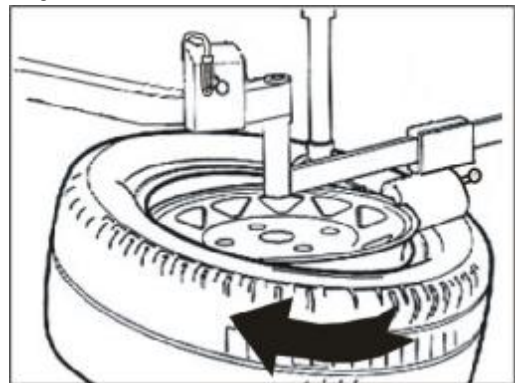

Fig.35
- I To seat the upper tyre bead, place the tyre well and readjust position of the tyre bead (same as mount of the lower tyre bead). Draw out the roller and make its side surface 1—2cm away from margin of the rim. Place the press block on the upper bead 20cm clockwise away from the mount/demount head. Press the control lever to make the press block go down 5—7cm to seat tyre bead into the rim groove (Fig. 35).